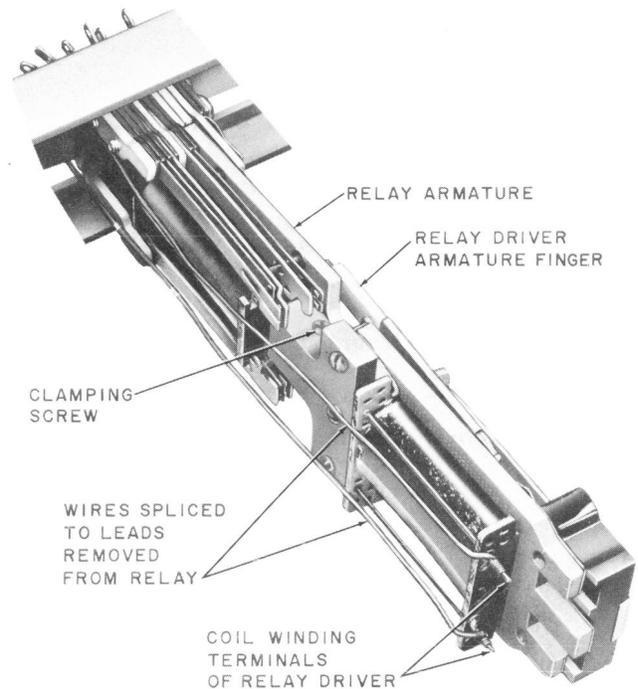
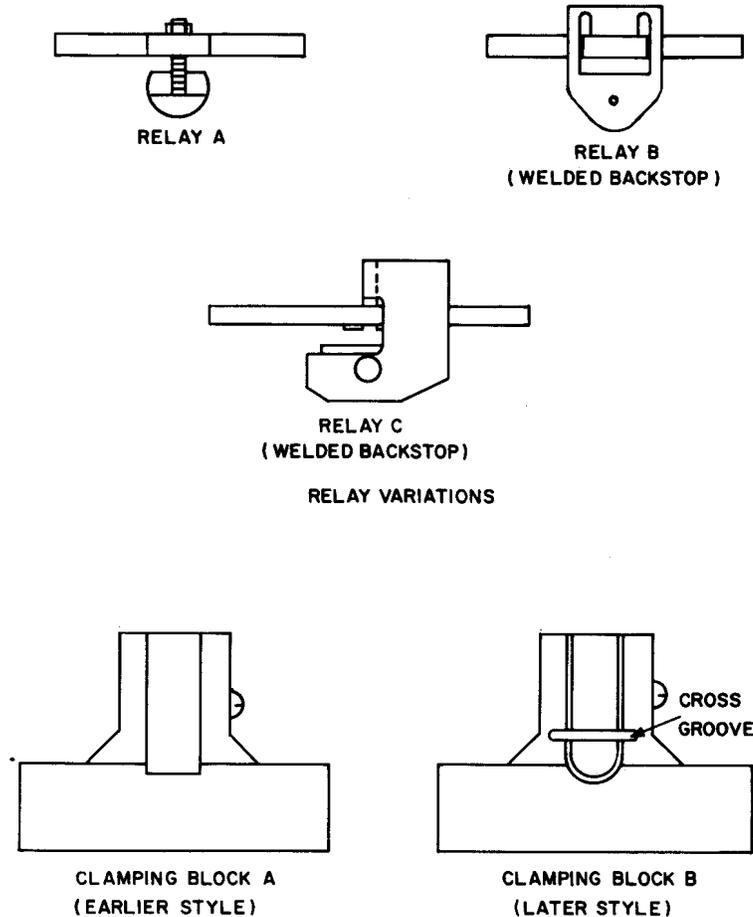

Fig. 1—Relay Driver Mounted on U-Type Relay
Fig. 2—Relay and Relay-Driver Variations
3. To add Relay C to Fig. 2.
3.01 U-Type Relays: Figure 1 illustrates a relay driver mounted on the core of a U-type relay. This position is similar for all variation of U-type relays and drivers in current use. These variations are shown in Fig. 2. Relay drivers with clamping block B can be used with all variations of A, B, or C relays, although some early B-type
(1) Using the 3-inch C screwdriver, back off the relay driver clamping screw so it is underflush with the mounting surface of the driver.
(2) Hold the relay driver in the position shown in Fig. 1 with the thumb and fingers pressing the armature of the driver against its backstop. Align the groove of the clamping block with the relay core and guiding the armature fingers of the driver to the right of the relay armature, slide the driver onto the relay as far as possible. Holding the driver in this position, press the fingers of the driver evenly against the relay armature with sufficient force to seat the relay armature against its core. With the fingers of the driver held in this position, securely tighten the clamping screw and release the fingers of the relay driver.
(3) Connect the coil winding terminals of the driver to the relay leads as covered in paragraph 3.08.
(2) Hold the relay driver in the position shown in Fig. 1 with the thumb and fingers pressing the armature of the driver against its backstop. With the clamping block held at an angle with and resting against the left side of the relay core, slide the clamping block along the core until the backstop of the relay drops into the cross groove of the clamping block. Rotate the driver into alignment with the relay so that the backstop of the relay slides into the cross groove of the clamping block and the two fingers of the driver lie to the right of the relay armature. Holding the driver in this position, press the armature fingers of the driver evenly against the relay armature with sufficient force to seat the relay armature against its core. With the fingers of the driver held in this position, securely tighten the clamping screw and release the fingers of the relay driver.